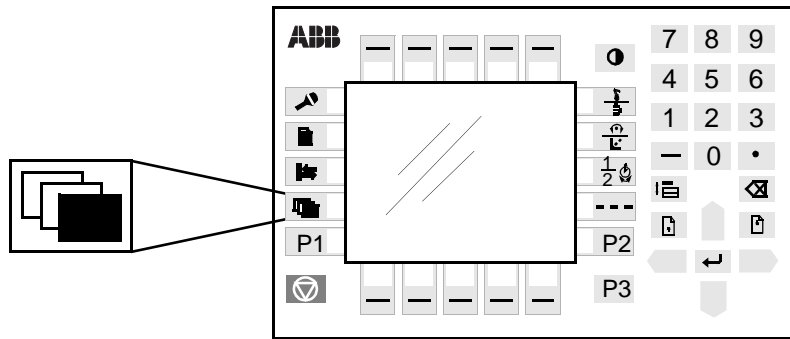

Figure 20 The Misc. window key from which the Service window can be chosen.
1. Press the **Misc.** window key (see Figure 20).